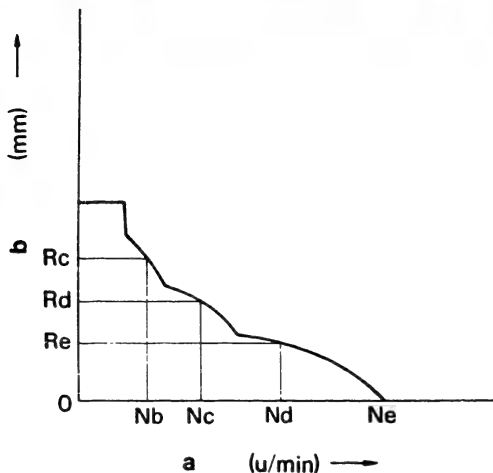

Fig. 145
- 4) Increase the pump speed until the control rack position is at R_e mm, and then check that the pump speed is N_d rpm. (Fig. 145)